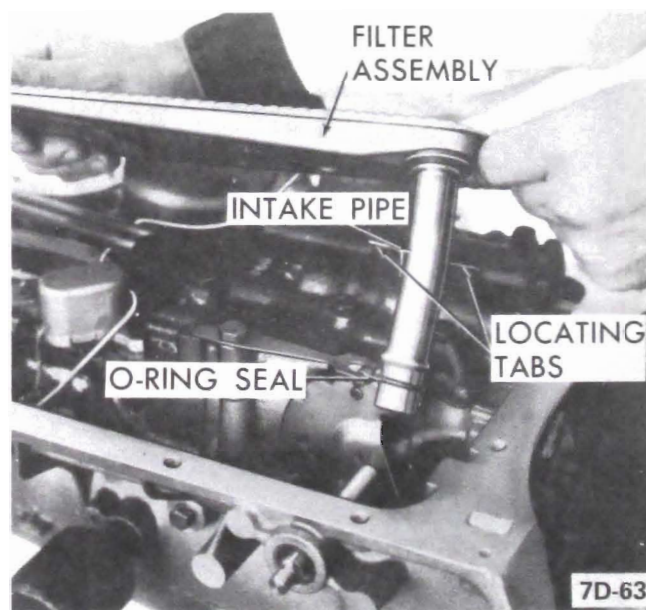

Figure 7D-24
9. Remove intake pipe to case "O" ring seal and discard. See Figure 7D-24.